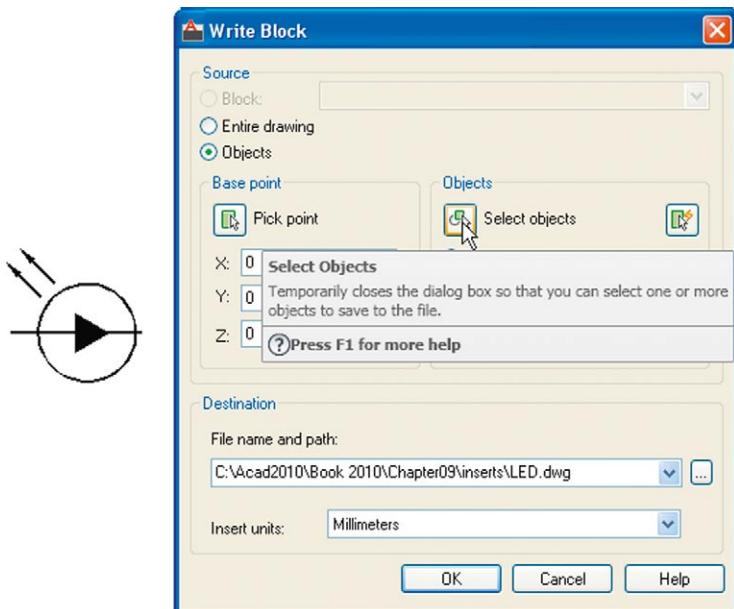

Fig. 9.19 Example – Wblock
### Example – wblock (Fig. 9.19)
1. Construct a light emitting diode (**LED**) symbol and *enter w* at the command line. The **Write Block** dialog appears (Fig. 9.19).